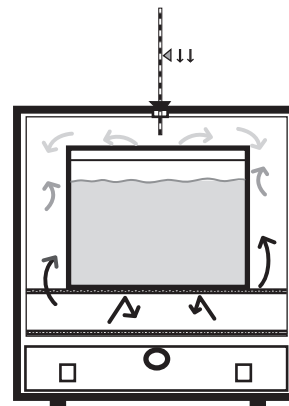

FIG. 8
- Avoid extremely large (in quantity or size), or high-density loads (FIG. 8 ON PG 4). This will show by non-uniform processing and long or impossible "heat-through" times. To help determine a large load's suitability, use the set-point recovery time (the time it takes for the temperature to recover to the original set temperature once load is placed), as a guide.